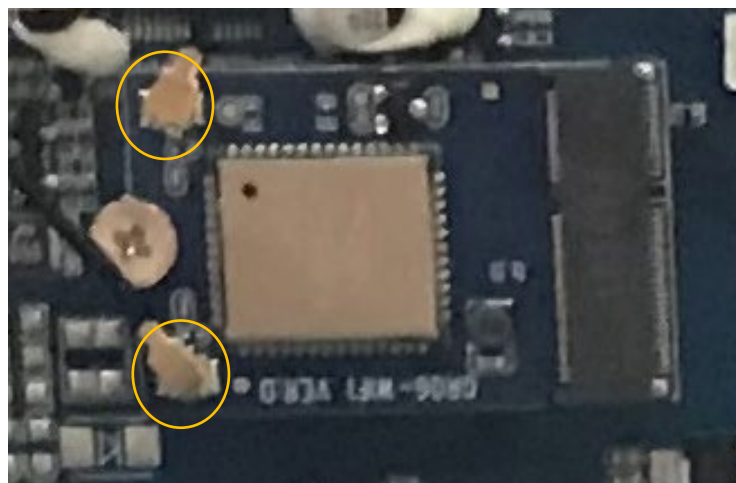

Figure 2
3. Detach the Wi-Fi antenna connectors from the Wi-Fi board (Fig. 2).